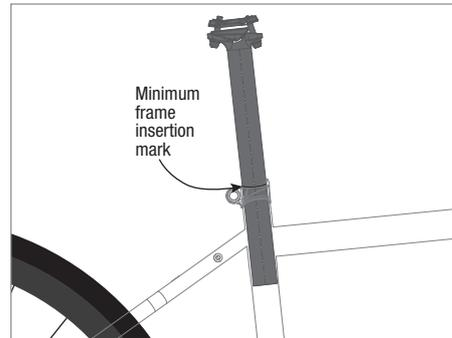

Figure 2
2. Slide the seatpost into seat tube at least until the MINIMUM INSERTION marking on the seatpost is no longer visible (Fig. 2). Then tighten the seatpost clamp bolt until it is snug. **DO NOT SIT ON THE BIKE AT THIS POINT AS THE SEATPOST CAN SLIDE INTO THE FRAME AND CAUSE DAMAGE.**